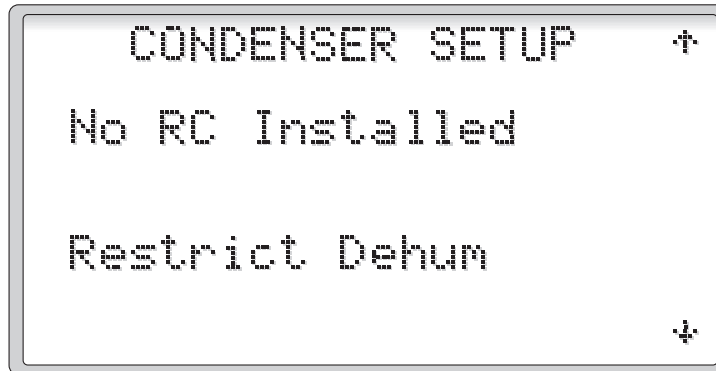

Figure 23
2.3.4.1.2 Configuration - Condenser Setup (Figures 23 and 24)
Pressing the **DOWN** key will now display the CONDENSER SETUP screen (Figure 23 or 24). If the unit has no provisions for a cooling condenser, the condenser screen will appear as Figure 23 stating 'No RC Installed'. In this case the compressor will only be allowed to run if dehumidification is required and cooling is not required. To allow the compressor to run whenever dehumidification is required, press the **ENTER** key, select 'Restrict Dehum' and change this to 'Allow Dehum'. Please note that in this case, overheating the space may occur or cause safety devices to trip. If this occurs, contact Desert Aire's Service Department at (262) 946-7400.